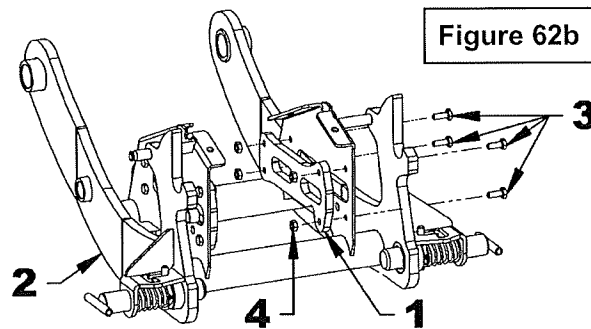

Figure 62b
2. **Figure 62b:** Attach the 2 3/8 "anti-friction guides (item 1) to the 4-point male hitch (item 2) using the eight 1/4"NC x 3/4" hex bolts (item 3) and eight 1/4"NC stover locknuts (item 4).